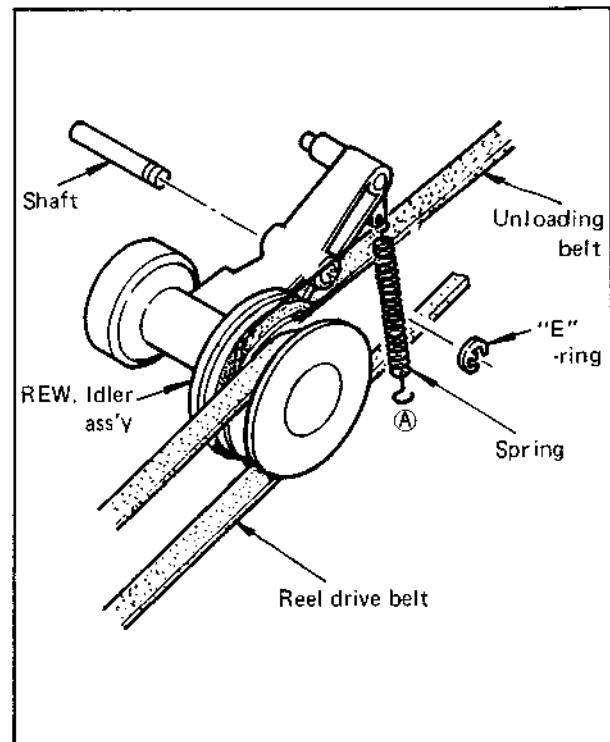

Fig. 4-32
2. Refer to Fig. 4-32. Take off the E-ring and spring (A), then remove the assembly from the shaft.